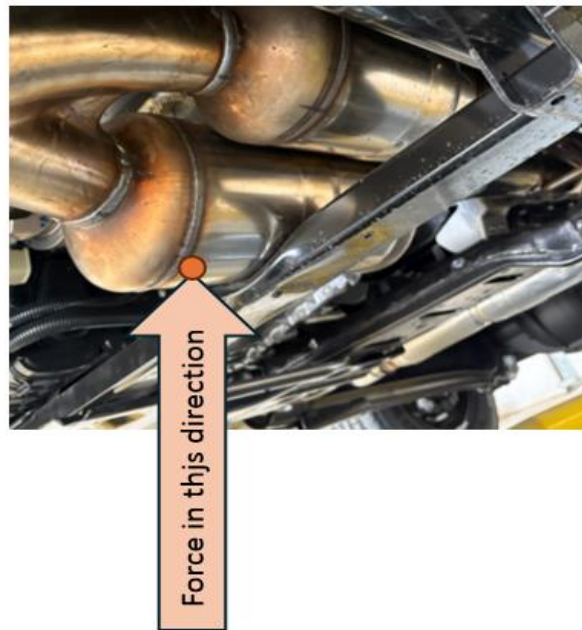

Fig 2.
2. Using a jack, carefully move the Y-pipe assembly up to gain $7/16$ " to $3/4$ " (12mm-19mm) clearance between the crossmember and the exhaust. (Fig 2.)